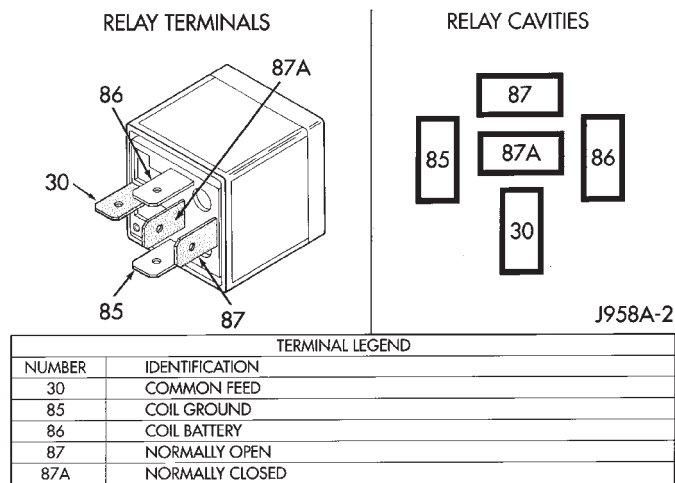

Fig. 11 Type-1 Relay
- (13) If equipped with **type-1 relay** (Fig. 11), attach test leads from LCS adapter into PDC relay cavities number 30 and 87. For location of these cavities, refer to numbers stamped to bottom of relay (Fig. 11).